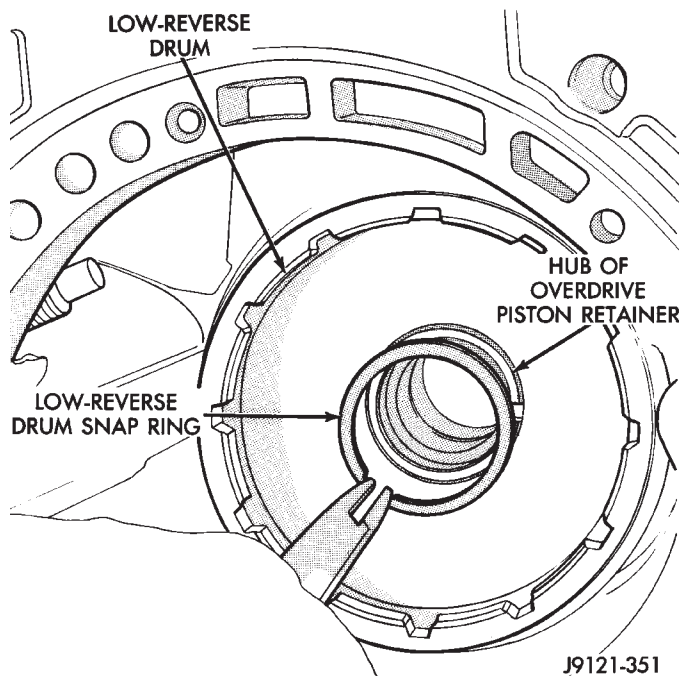

Fig. 109 Installing Low-Reverse Drum Retaining Snap Ring
(7) Install snap ring that secures low-reverse drum to hub of overdrive piston retainer (Fig. 109).